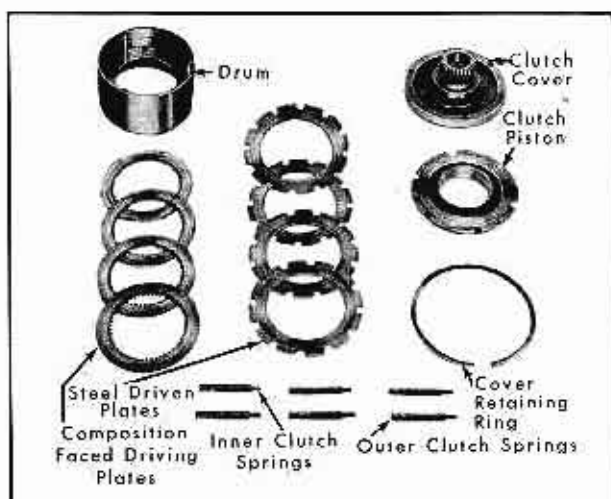

Fig. 14-32 Front Unit Disassembled
5. Remove four composition clutch drive and four steel clutch driven plates from drums. Fig. 14-32.